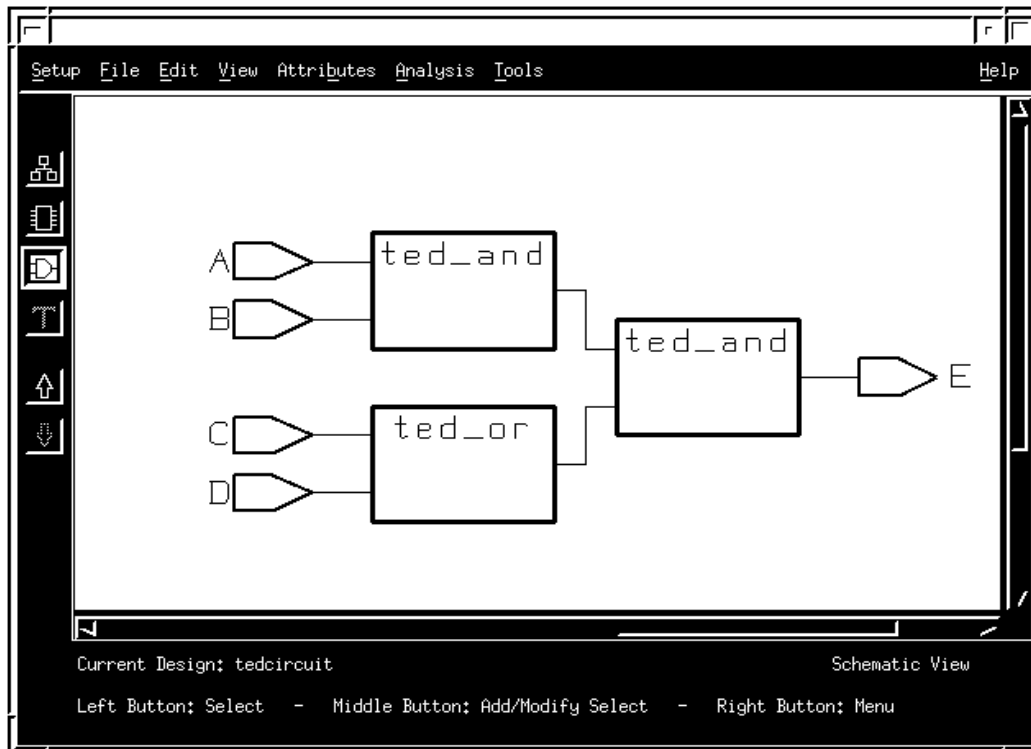

Figure 13: Schematic representation of the tedcircuit entity.
(6) Left click on the button labelled with the symbol for an AND gate located third from the top on the left hand side of the Design Analyzer window. The top-level icon is now replaced with a schematic representation of the VHDL code (see Figure 13). Use the View -> Zoom In to zoom in. Select one of the blue wires (which represent signals) with the left mouse button. The corresponding signal name listed in the field named Net located at the bottom left hand corner of the window.